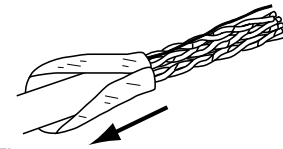

Fig. 2
- Fold the shield back over the cable jacket, then trim the folded shield to 0.38" [9.53 mm]. The shield should wrap smoothly around the outside of the jacketed cable with the conductive surface exposed. (See Fig. 2 & 3).